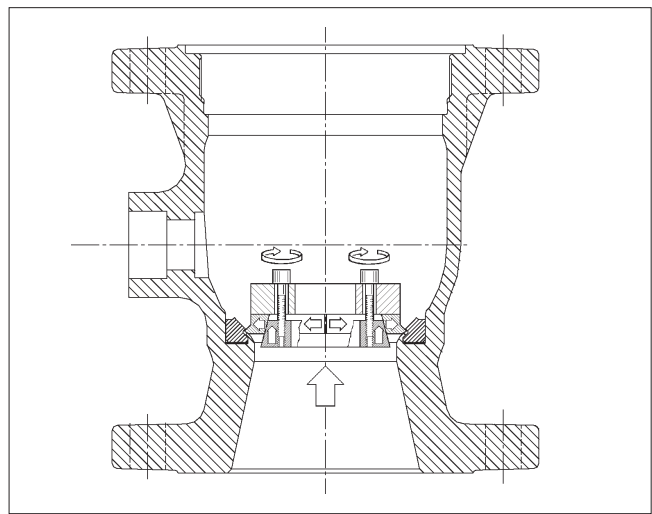

Fig. 19 Removing a locked seat
- Unscrew the insert (2) using a special tool. See Section 8 'Tools'.
- Remove the gaskets (65, 135), seat (7) and ball (3). The ball should be in the closed position for removal.
- Remove the key (10).
- Unfasten the the gland nuts (18). Remove the disc spring sets (150), studs (14), retainer plates (42), the gland (9) and the packing rings (69).
- Remove the pin (50) and then the spline driver.
- Remove the stem (5) by pulling it outwards. The thrust bearings (70) will be detached around the stem.
- Remove the locked seat (7) using an outpulling tool, see Figure 19. See also Section 8 'Tools'.